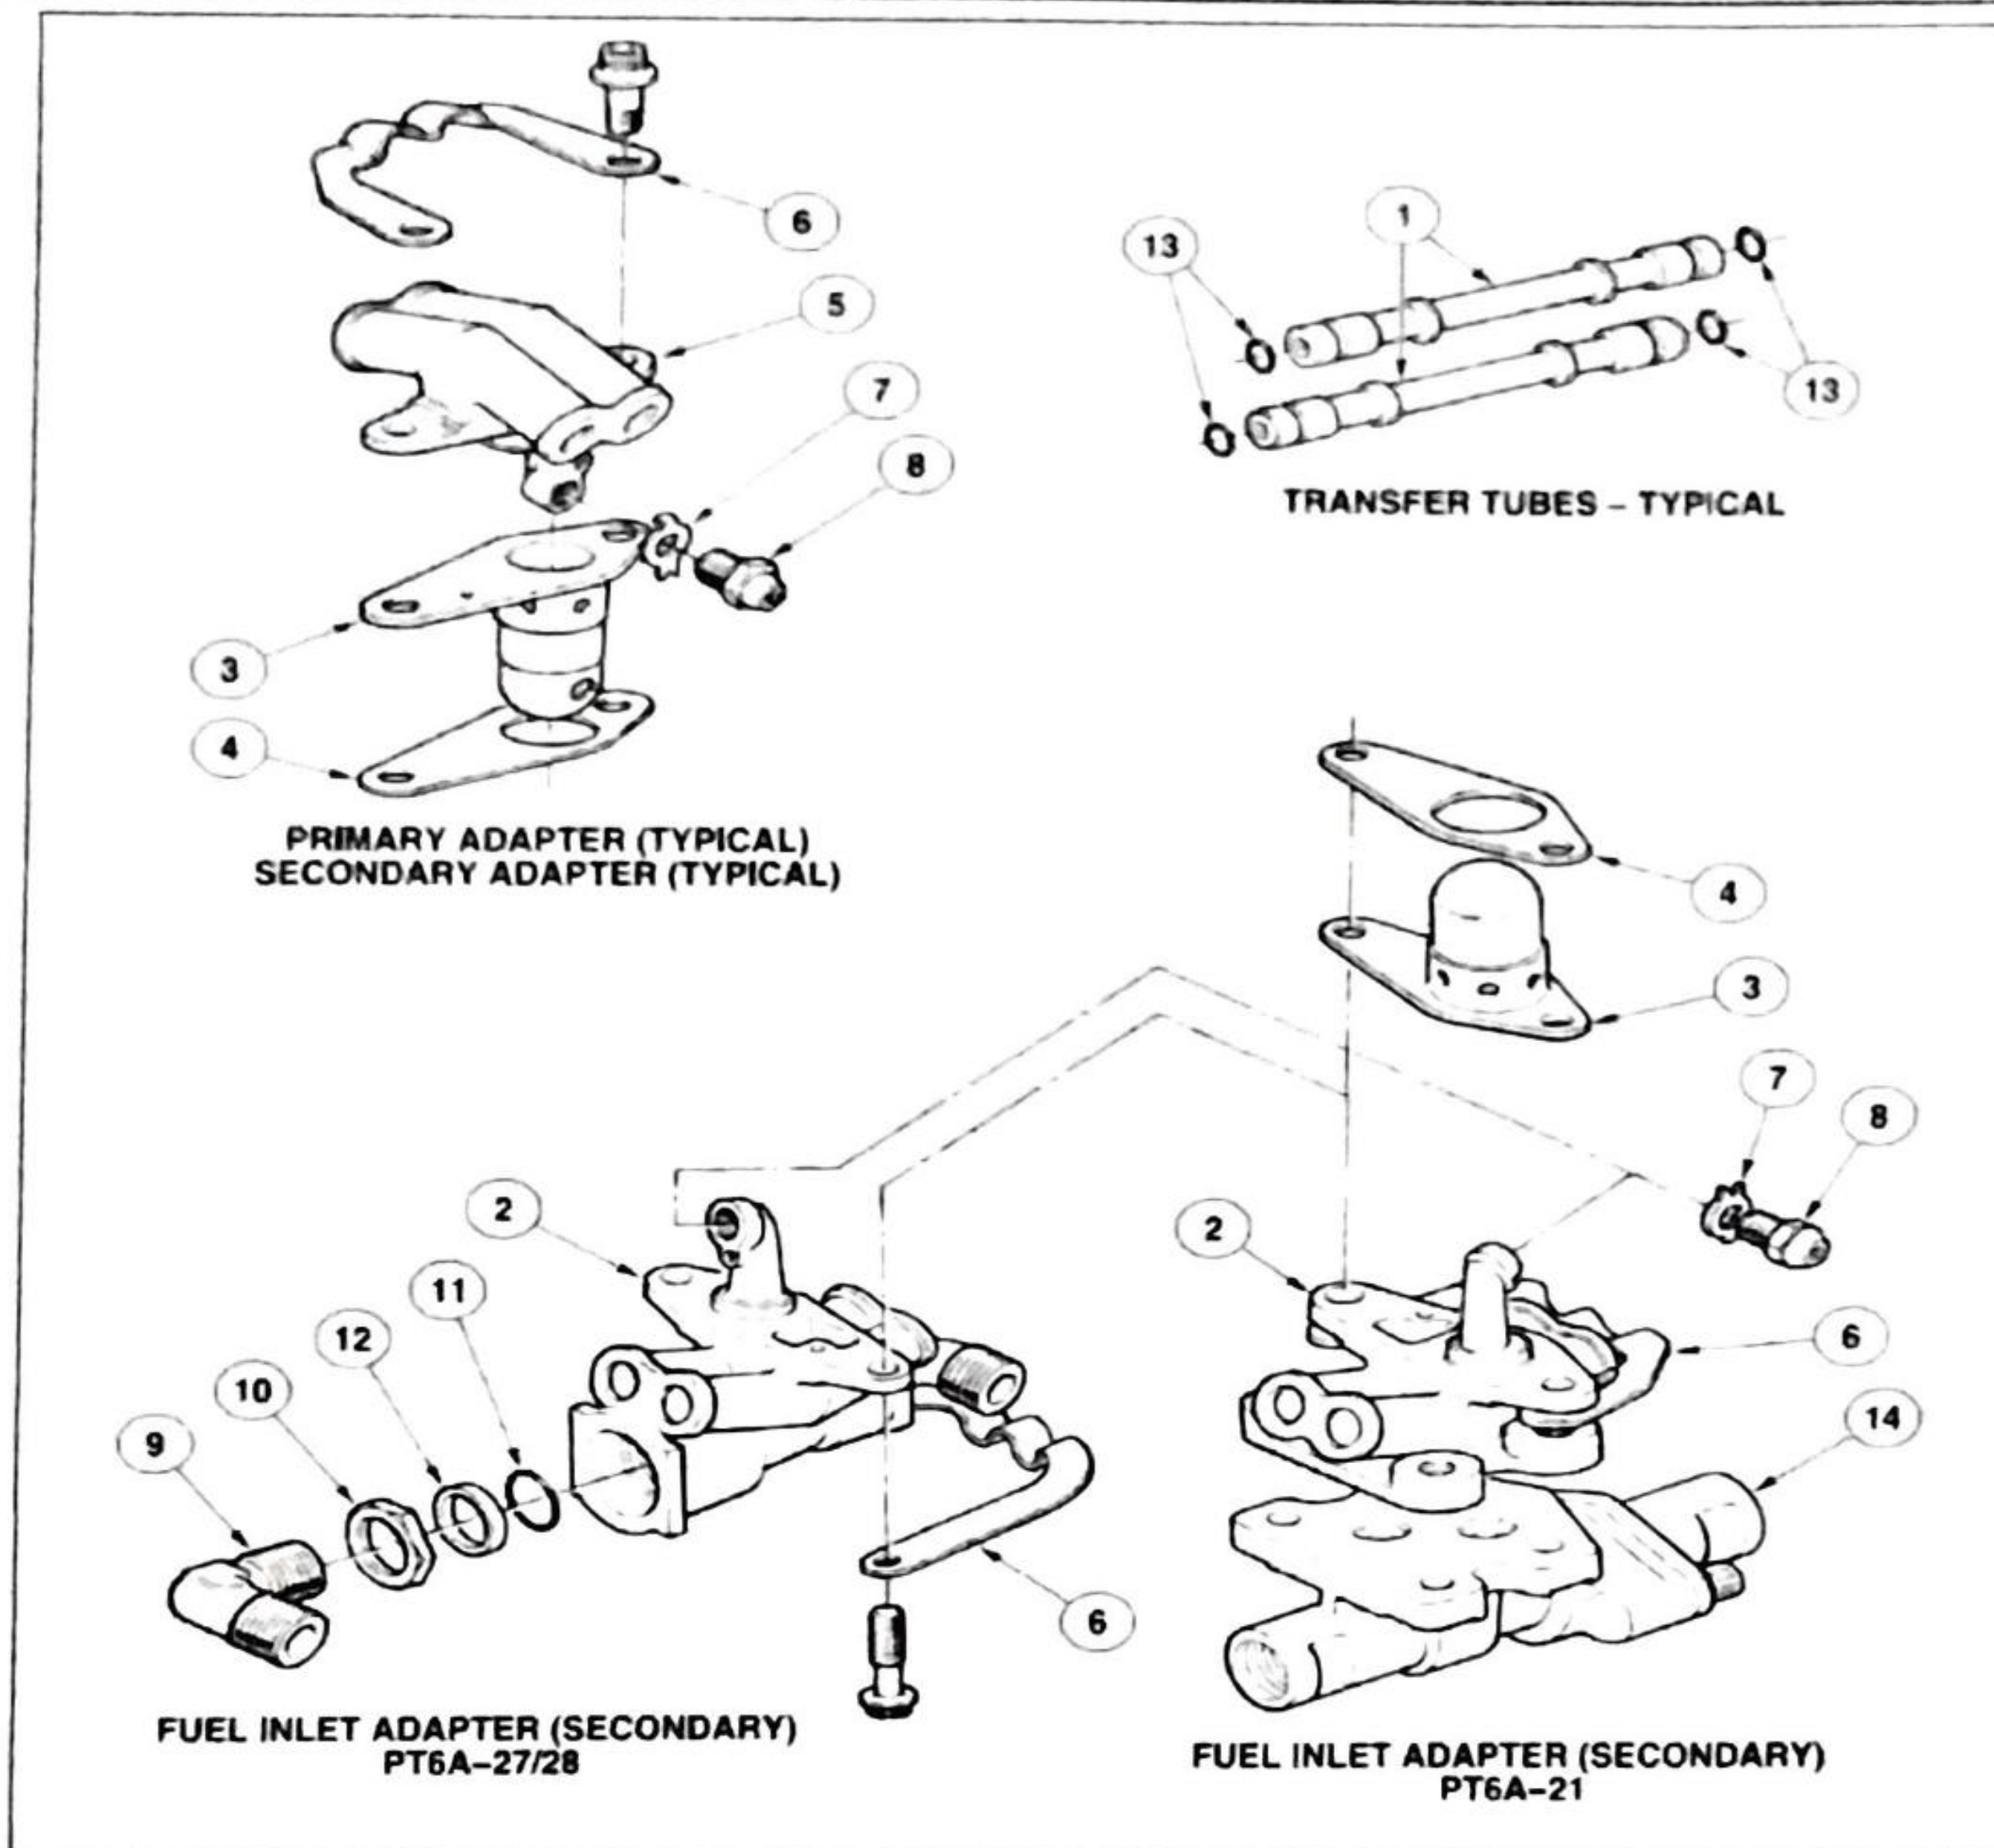

Figure 202 - Removal/ Installation of Fuel Manifold Adapter
2	Remove bolts securing transfer tube locking plate (6, Fig 202) and inlet manifold adapter (item 2) to gas generator case. Remove locking plate (item 6).
3	Install the fuel nozzle (Item 8, Fig 202) in the fuel manifold adapters (Item 2 and 5) with new keywasher (item 7) at each location
d) Lubricate and install preformed packings (13, Fig. 202) on all fuel transfer tubes (1) using a thin layer of engine oil (PWC03-001). Position fuel transfer tubes into ports on one side of manifold adapters (2 and 5). Fully insert fuel transfer tubes in their respective ports until the bottom of manifold adapter is reached.
Key to Figure 202